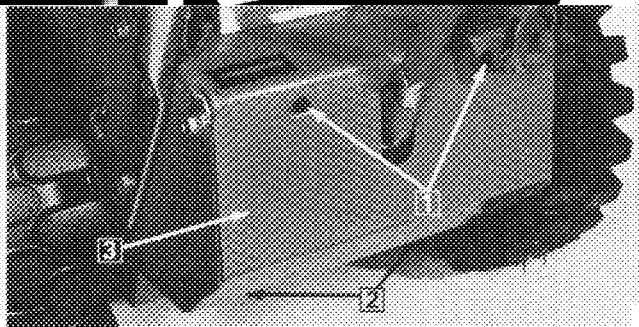

Figure 2
1. Remove four self tapping screws securing rear shield to engine base and remove shield (Fig. 2).